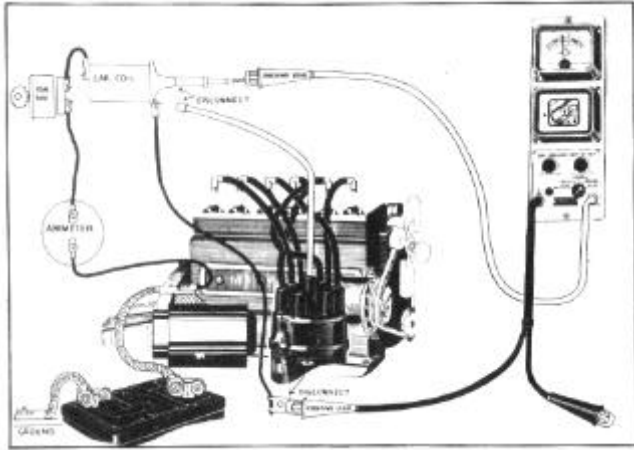

FIGURE 17
4. Separate the positive primary and ground test leads, connect the positive primary lead to the primary ignition wire which was removed from the distributor, Figure 17.